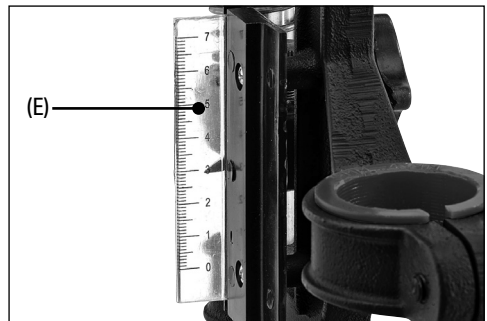

Fig. 10
2. Check the depth ruler scale (E) and lower the handle until the required depth is set. (Fig.10)
3. Retighten the knob and the depth rod (F) will be set to the required depth.
- The depth stop (7) can be rotated up or down to fine tune the depth setting.